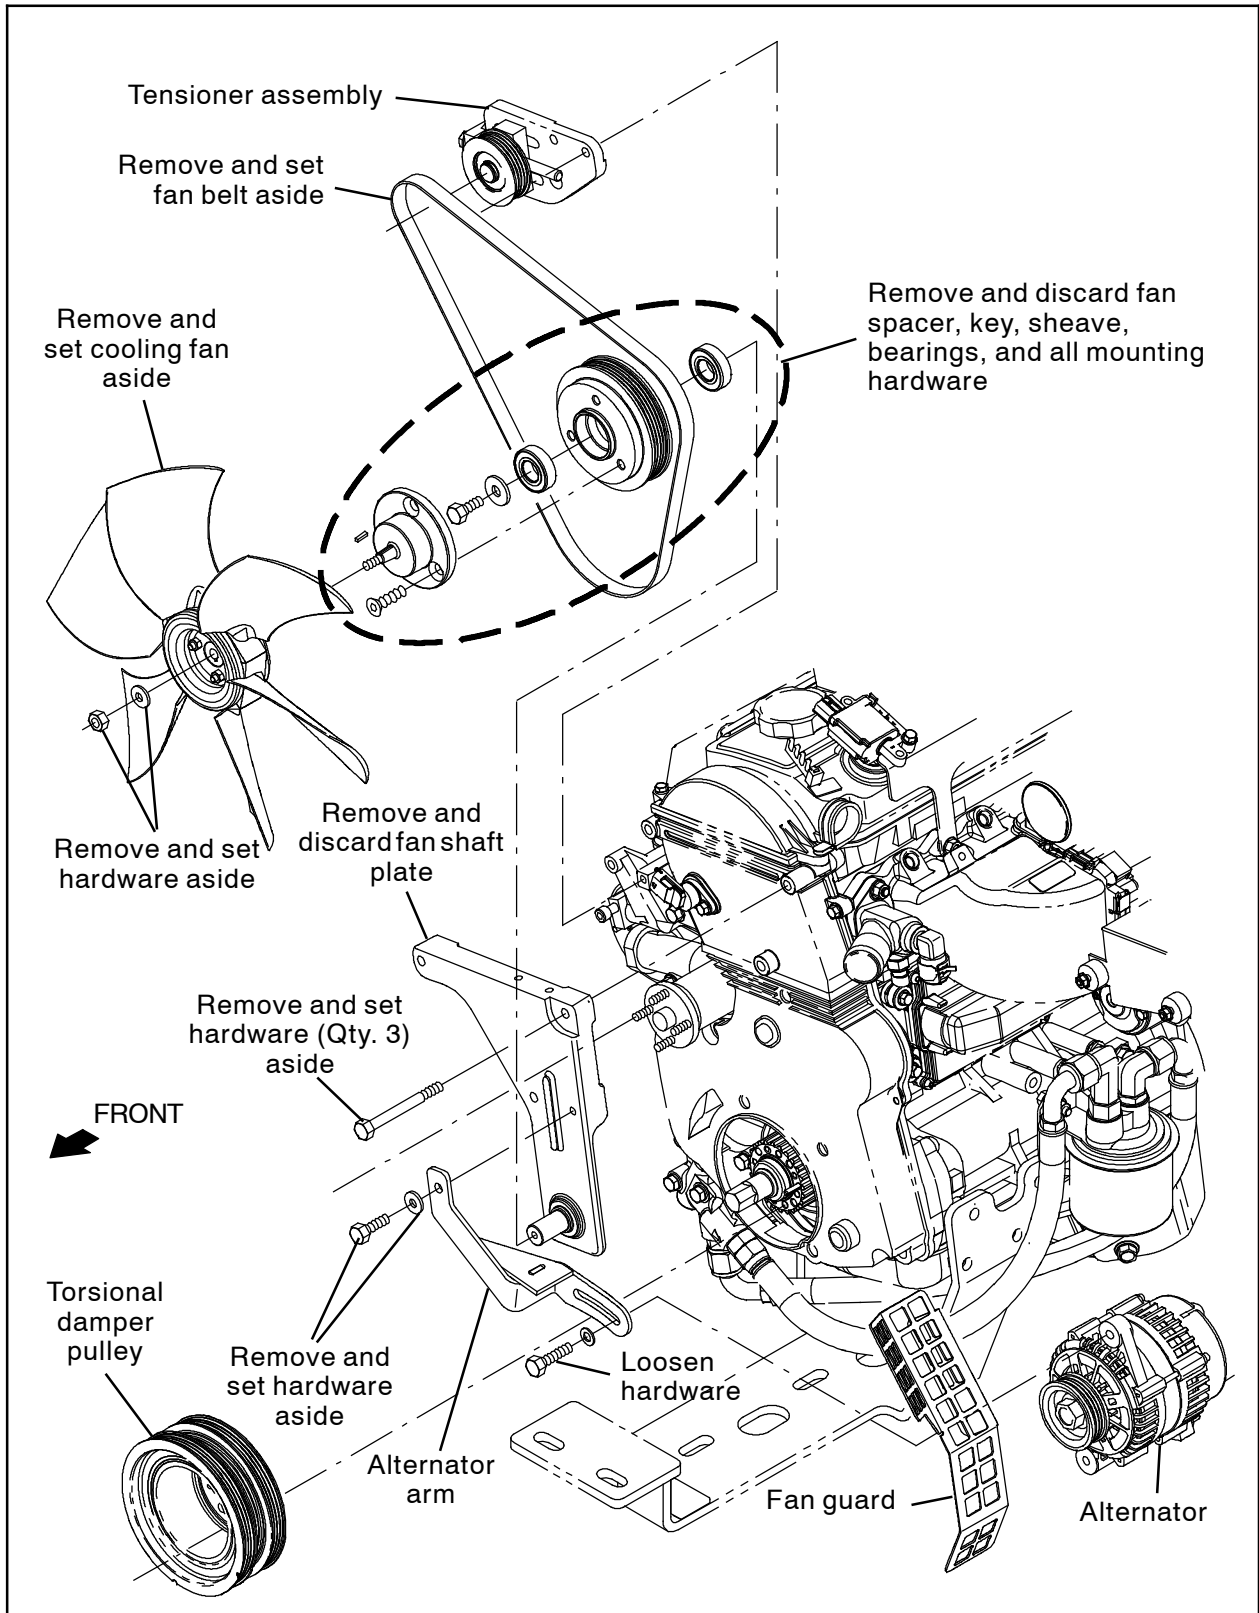

FIG. 1
4. Remove the cooling fan assembly from the engine. Set the fan assembly and all hardware aside. (Fig. 1)
5. Remove the engine belt from the machine. Set the engine belt aside. (Fig. 1)
6. Remove the sheave and fan hub pulley from the machine. Discard the sheave, spacer, key, bearings, and all mounting hardware. (Fig. 1)
7. Remove the hardware securing the alternator arm to the fan shaft plate. Set the hardware aside. (Fig. 1)
8. Remove / move any components necessary to access and remove the fan shaft plate from the machine. Set all removed items aside. (Fig. 1)
9. Remove the fan shaft plate from the machine. Set all mounting hardware aside. Discard the fan shaft plate. (Fig. 1)